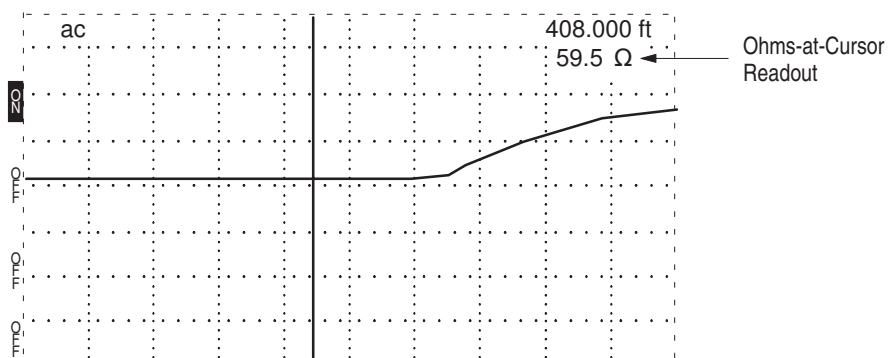

Figure 2-10: Ohms-at-Cursor
6. Turn the $\triangleleft \triangleright$ POSITION control to set the cursor near the end of the cable as illustrated (see Figure 2-10).